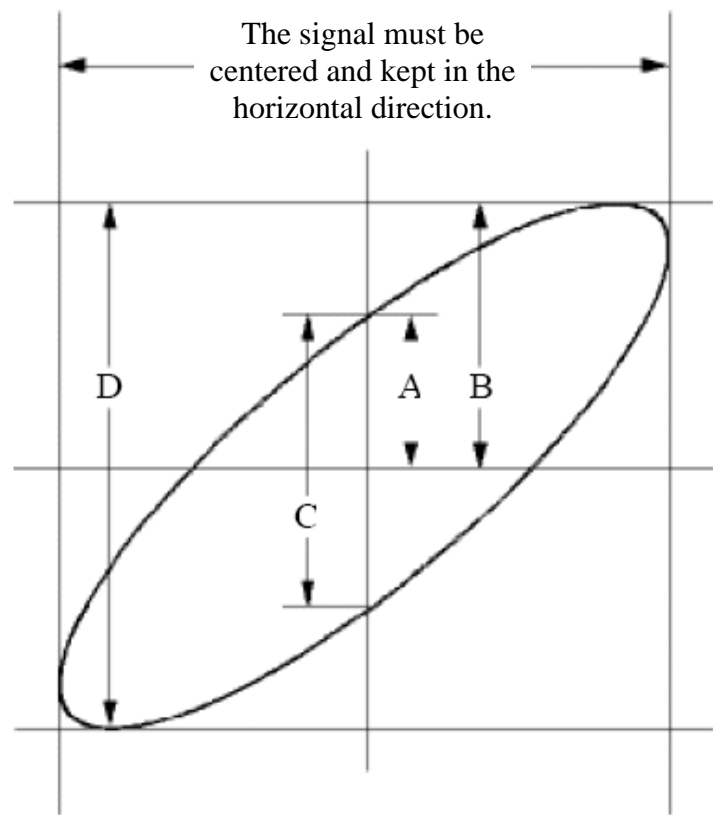

Figure 0-6 Lissajous Graph
- (3) Push the **Autoset** button, with the oscilloscope turning on the signals of the two channels and displaying them in the screen.
- (4) Turn the **Vertical Scale** knob, making the amplitudes of two signals equal in the rough.
- (5) Push the **Acquire** button to display the right menu.
- (6) In the right menu, select **XY Mode** as **ON**. The oscilloscope will display the input and terminal characteristics of the network in the Lissajous graph form.
- (7) Turn the **Vertical Scale** and **Vertical Position** knobs, optimizing the waveform.
- (8) With the elliptical oscillogram method adopted, observe and calculate the phase difference (see *Figure 0-6*).